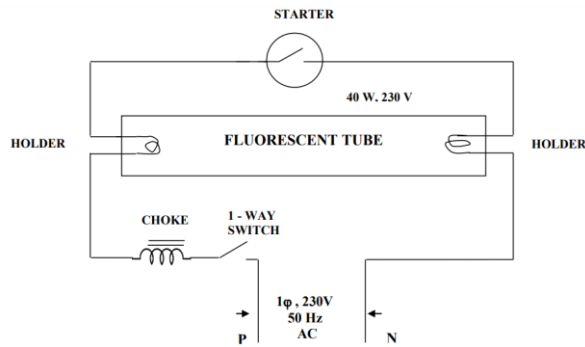

Figure 9.2 Circuit diagram-tube light
1. Prepare wiring for a tube light with switch control as shown in Figure 9.2.